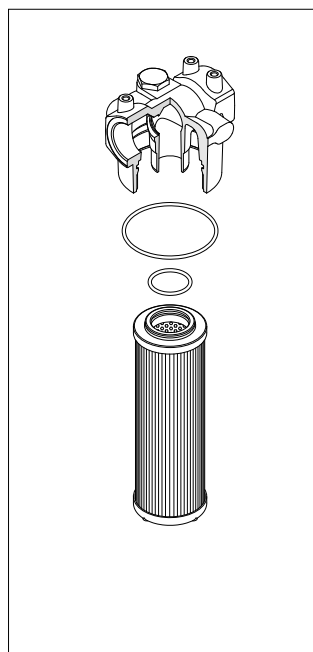

fig. 19
- (Fig. 19) Fit the O-ring in the head groove, insert the O-ring in the filter element cap.